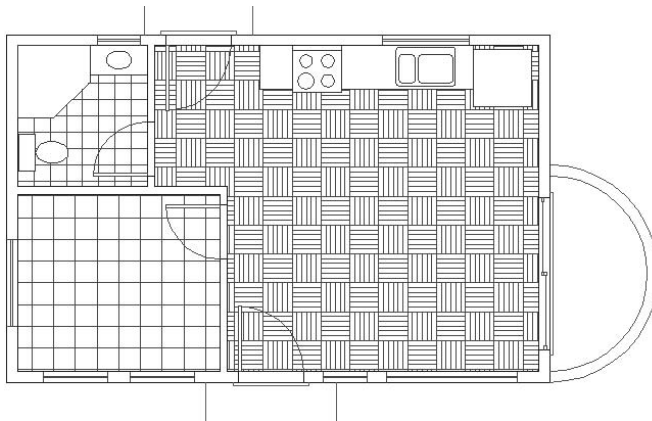

FIGURE 9.19: The parquet hatch in the living room and kitchen
7. Click Preview. This looks better. Right-click to accept it. The parquet pattern is placed in the living room and kitchen (see Figure 9.19).